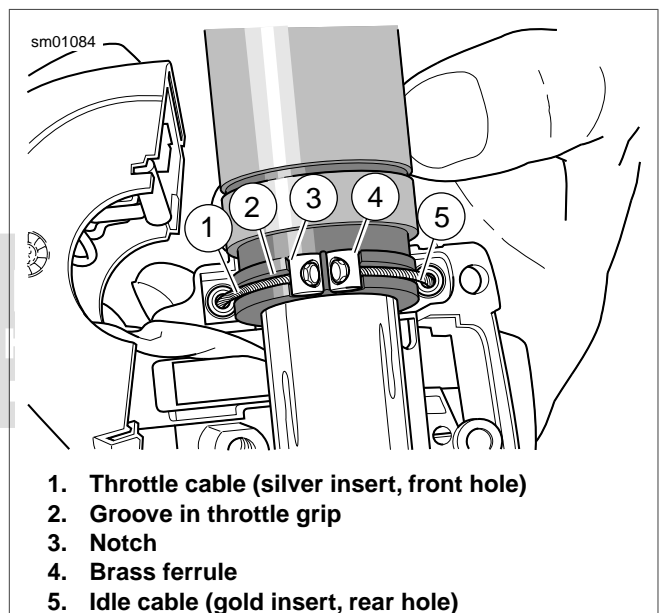

Figure 7-88. Throttle Cable Attachment
5. See Figure 7-88. Position lower switch housing beneath the throttle control grip. Install the brass ferrules (4) onto the cable so that the end fittings seat in the ferrule recess. Seat the ferrules in their respective notches (3) on the throttle control grip. Verify that the cables are captured in the grooves (2) molded into the grip.